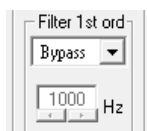

Fig. 23 Input filter
- 1) In the list field, under "Filter 1st order" (fig. 23), select the filter type: "High Pass" or "Low Pass".